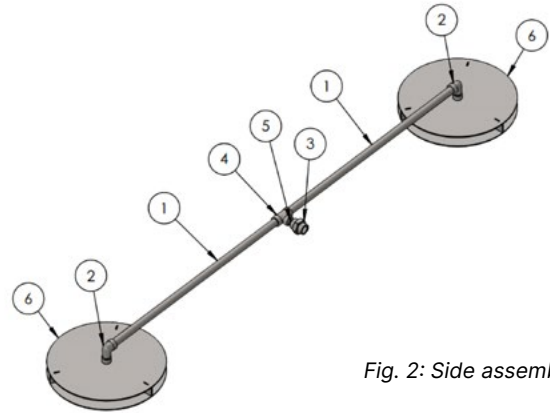

Fig. 2: Side assemblies (2)
- Side assemblies (2) (Fig. 2)